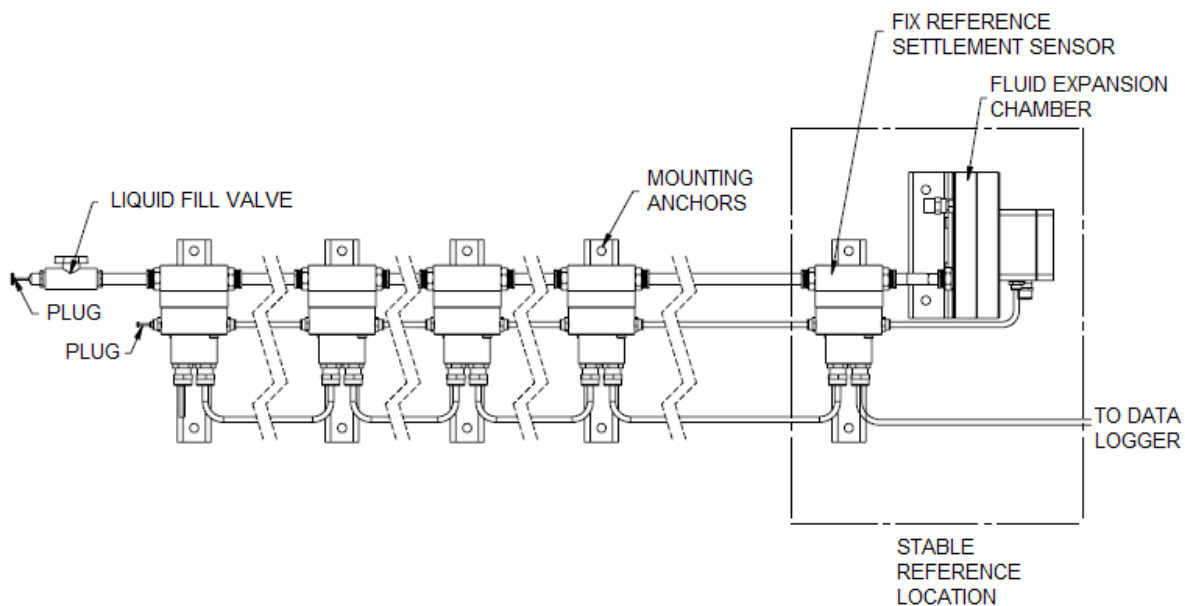
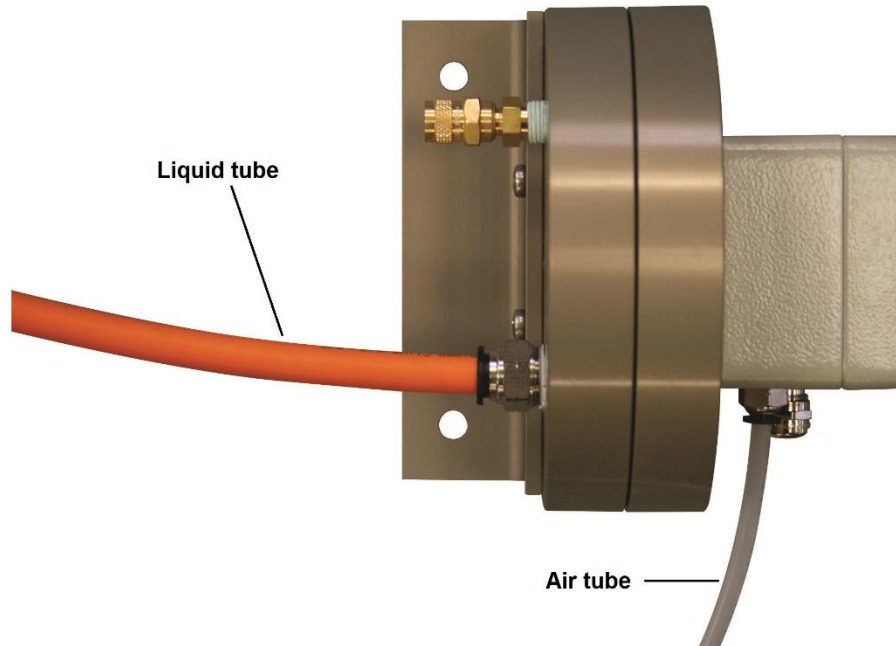

FIGURE 1-1 PRECISION LIQUID SETTLEMENT SYSTEM
FIGURE 5-3 PRECISION LIQUID SETTLEMENT FLUID EXPANSION CHAMBER, WITH LIQUID TUBE AND AIR TUBE
The Precision Liquid Settlement Array (Figure 1-1) provides reliable, real-time monitoring of relative settlement and heave which may occur at excavation sites, tunnelling projects, underground openings and related applications. It is ideal for monitoring structures near underfills, preloads, embankments, and grouting. It can also be used to measure vertical deflection of ceilings on underground structures.
The fluid expansion chamber (Figure 5-3) is typically installed near the reference sensor, as illustrated in Figure 1-1. The following instructions outline the correct procedure for installing the fluid expansion chamber.
- 3 Connect the liquid tube and air tube from the final sensor in the array to the reference sensor by firmly inserting each tube into the appropriate fitting on the reference sensor (Figure 5-3).